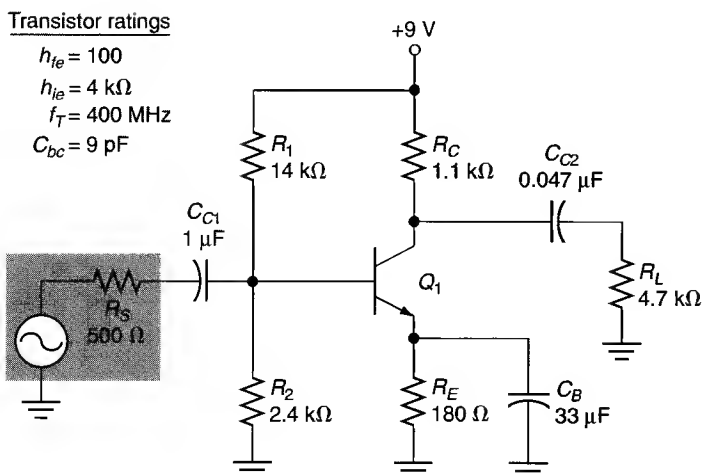

FIGURE 14.32
12. Calculate the value of f_{1B} for the amplifier in Figure 14.32.
14. Calculate the value of f_{1C} for the amplifier in Figure 14.32.
16. Calculate the value of f_{1E} for the amplifier in Figure 14.32.
26. Determine the value of f_{2B} for the amplifier in Figure 14.32.
28. Determine the value of f_{2C} for the amplifier in Figure 14.32.